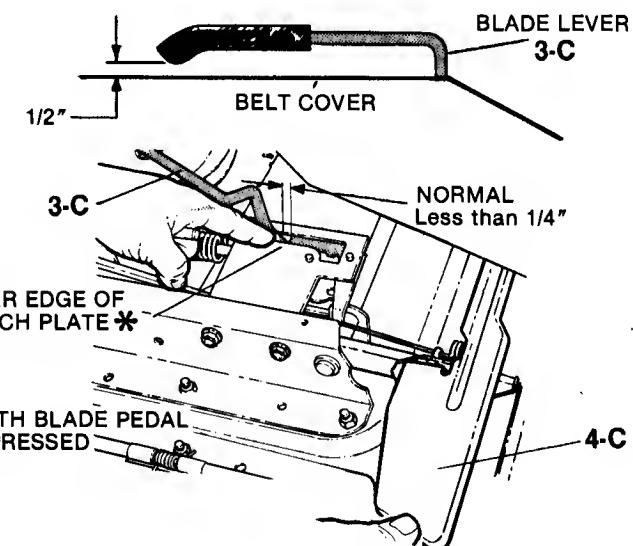
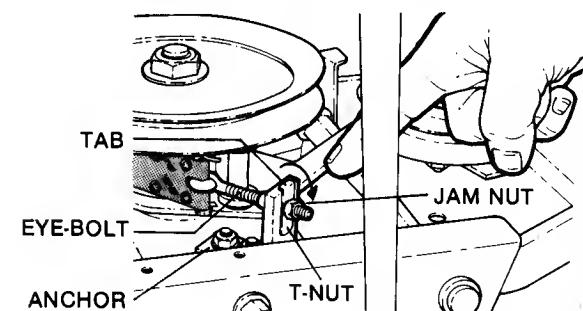

FIG. 10 - BLADE LEVER TRAVEL
FIG. 11 - BLADE BRAKE ADJUSTMENT
As the brake band wears, the BLADE lever will gradually stop further rearward in the slot of the BELT COVER. Blade brake adjustment is required when the lever stops more than $1/4"$ behind the latch plate. Refer to FIG. 10. The adjusting point is shown in FIG. 11. **With the engine STOPPED**, the adjustment is made as follows:
STEP 2: While holding the BLADE lever firmly in the rearward position, loosen the jam-nut on the end of the eye bolt (refer to FIG. 11).
STEP 4: Release the BLADE pedals to allow the BLADE lever to move to the OFF position, then depress the BLADE pedals again and check the clearance between forward edge of the BLADE lever and the rear edge of the latch plate which should be less than $1/4"$ (FIG. 10). Repeat the procedure in step 2 if needed to obtain correct clearance. When correct, hold the BLADE lever rearward and turn the jam-nut tight against the T-nut to lock in new position. Reinstall BELT COVER.